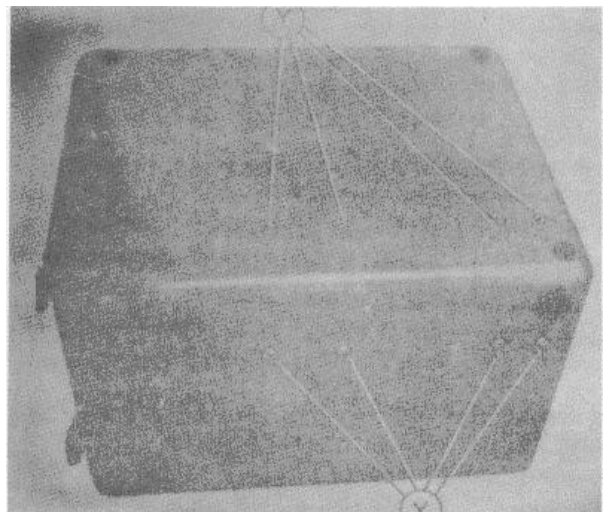

Figure 6-3. Rear-Bottom View for Removal of Power Supply PP-562A/URM-25 from Cabinet
(1) To remove the power supply, take out the four binding head screws located on the bottom of the cabinet. There are also four screws on the rear of the cabinet which must be removed. (See figure 6-3).